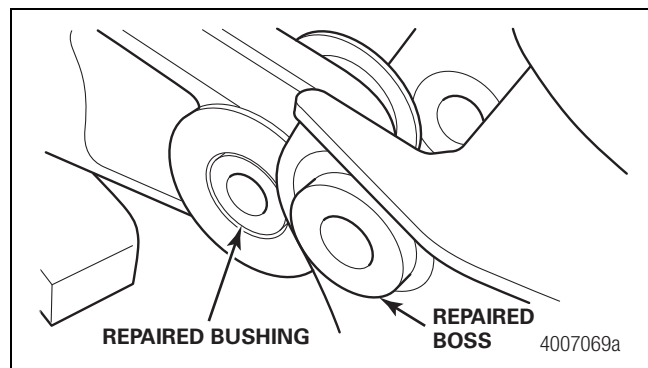

Figure 18
12. After the axle seat repair is complete and the metal has cooled, continue with the bushing replacement procedure in Technical Bulletin TP-0482. Figure 18.